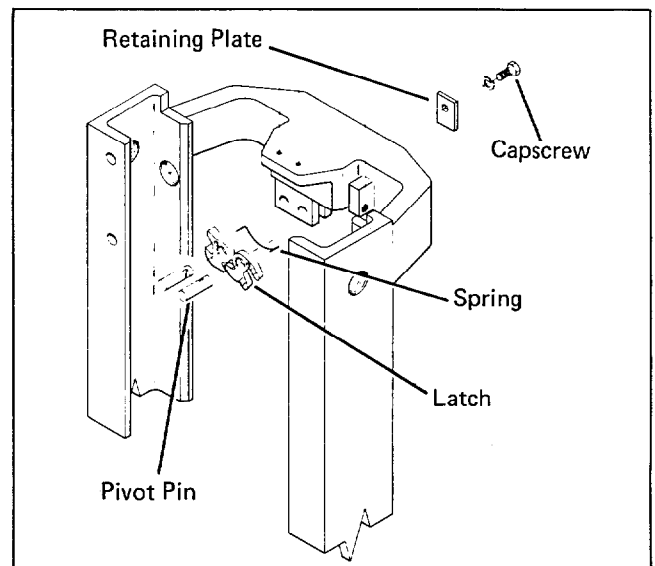

Figure 4-19 Latch Mechanism
- (a) Engage the two latches and latch spring as shown in figure 4-19.